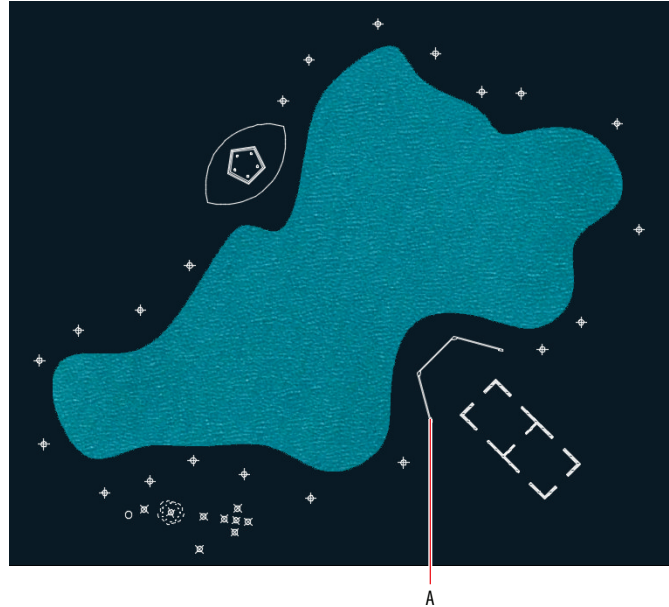

FIGURE 5.1 Initial landscape plan
at www.sybex.com/go/autocad2015essentials. Figure 5.1 shows the landscape plan.
1. Click the Polyline tool on the Draw panel of the ribbon. Click the first point at point A, shown in Figure 5.1. Type **A** (for Arc), and press Enter.